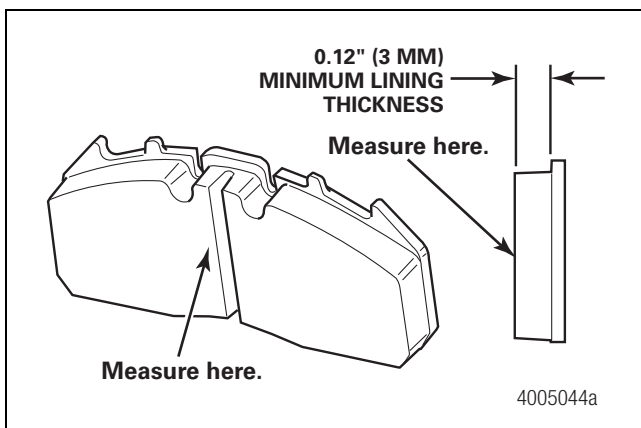

Figure 4.10
9. Measure the friction material thickness from the center of the brake pad. Replace brake pad assemblies before the lining thickness reaches 0.12-inch (3 mm). Figure 4.10.